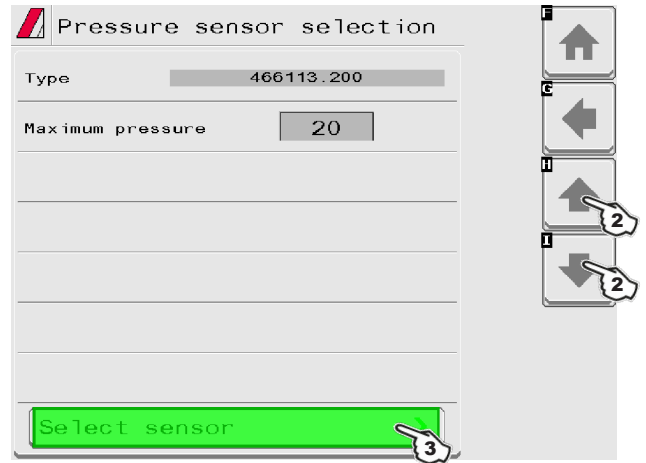

Fig. 43
- 1 Set the installed pressure sensor by selecting it from list in Fig. 43 (use keys 2 to scroll items, and key 3 to confirm).